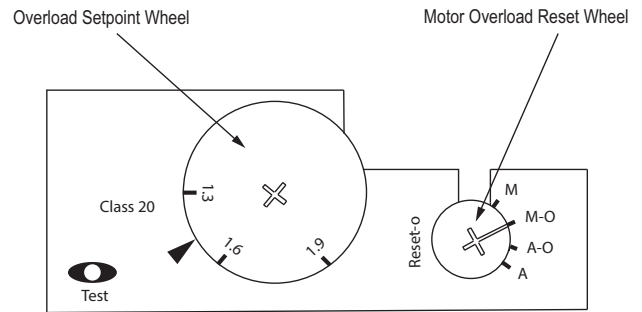

Fig. 17 — Motor Starter Setting
1. On the starter, adjust the Motor Overload to match the **FLA Rating** of the installed motor by turning the Overload Setpoint wheel to the appropriate value. See Fig. 17. Evaporator and condenser motor FLA Ratings are listed in Table 20.